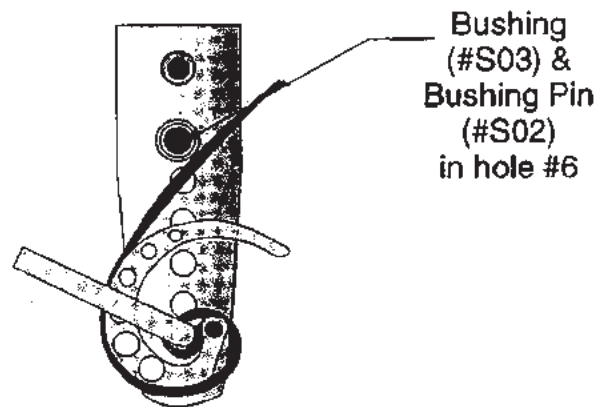

Figure 6 -- Large Scrolls
Step 7: For large size scrolls, move the BUSHING and BUSHING PIN (#S02) to Hole #6 as shown in Figure 6.